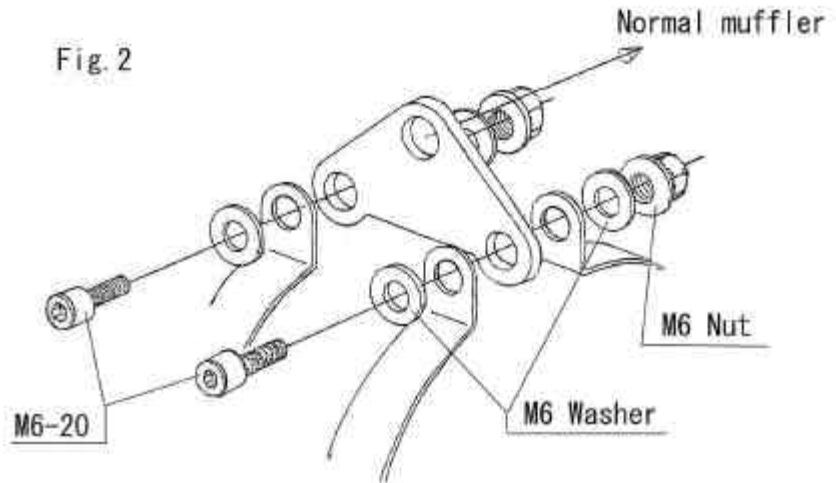

Fig. 2
6. Install the TiForce Silencer to the tail pipe. Attach this installed silencer and tail pipe to the stay attached in step 4 with supplied silencer band, band rubber, M6 bolt, nut and washer. (M6x25mmx 2, M6 lock nut x 2, M6 washer x 4) (See fig. 2)